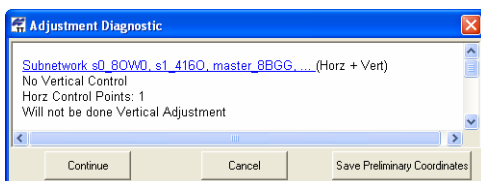

Figure 6-21. Only Horizontal Control Point(s)
- If only horizontal control point(s) are found, the adjustment process stops and the *Adjustment Diagnostic* dialog box will display (Figure 6-21). Click **Continue** to perform ONLY a horizontal adjustment of the network.